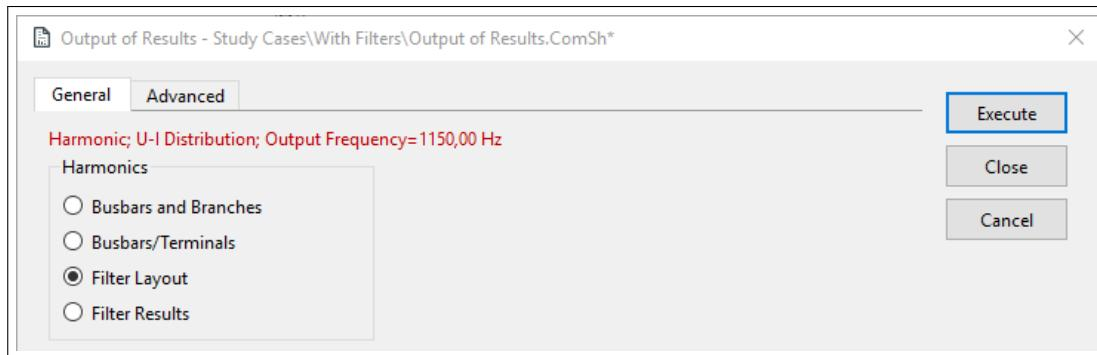

Figure 36.4.1: Filter Analysis Report Command (*ComSh*)
The filter analysis command can be activated using the *Filter Analysis* button  or by using the *Output Calculation Analysis* button  on the main icon bar (see also Section 19.4.2: Output of Results). This will open the same dialog as that used for the reporting of harmonic results, as displayed in Figure 36.4.1. This command can alternatively be launched from the single line graphic, after selecting one or more elements, and right-clicking and selecting *Output Data... → Results*. Results will then be output for the selected elements. It should be noted that elements should be selected according to the type of report being generated. This means that for *Busbars and Branches* only terminals and branches should be selected, for *Busbars/Terminals* only terminals should be selected; and for *Filter Layout* and
*Filter Results* only shunts and harmonic filters should be selected. In the dialog, the *Output Frequency* specified in the harmonic load flow command is displayed in red text (see top of dialog in Figure 36.4.1).